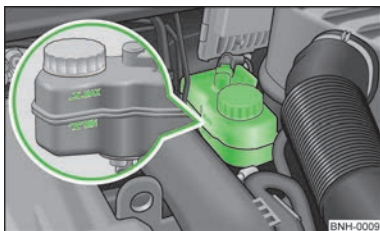

Fig. 101
- Check the level of brake fluid in the reservoir » Fig. 101. The level must be between the "MIN" and "MAX" markings.